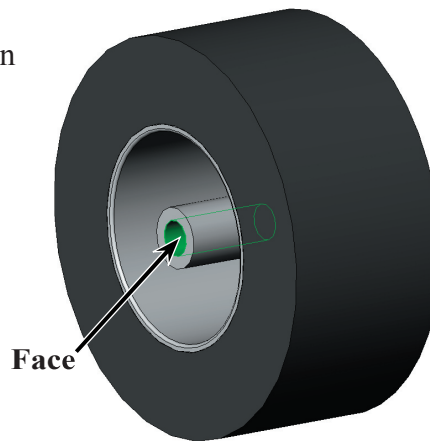

Fig. 19
Step 1. Rotate view slightly to view **inside of rim**, hold down middle mouse button (wheel) and drag to rotate view, **Fig. 19**.
Step 2. Click the **inside cylindrical face of axle hole** to select it, **Fig. 19**.